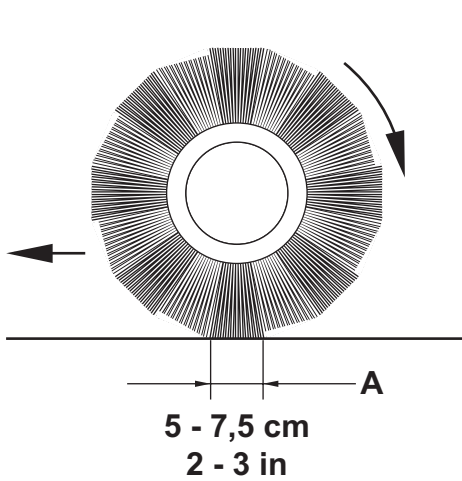

Figure 4
8. Repeat steps 2 to 7 until the polished strip is as shown in figure 4.